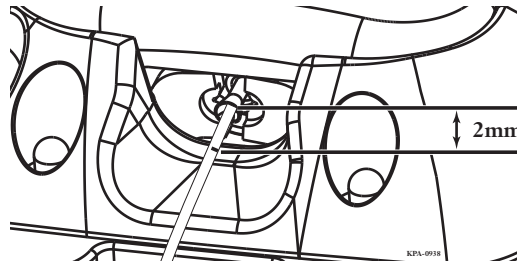

Figure 72 — Insert Fiber into Lead-in Tube
Step 1: Insert the newly cleaved fiber into the lead-in tube (Figure 72) until the fiber stops. The visual mark must be within 2 mm of the lead-in tube.